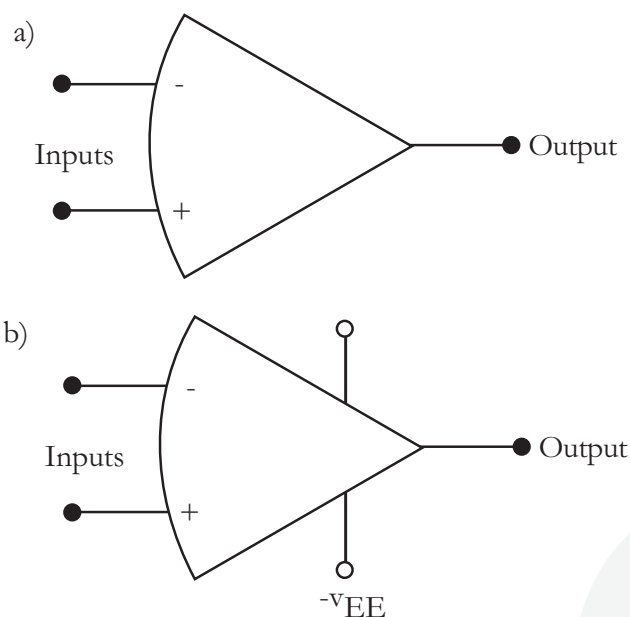

Figure 4.3 – Schematic Symbols of an Operational Amplifier
The schematic symbols for an operational amplifier are shown in figures 4.3 below.
The symbol shown in figure 4.3 (a) is for a simple Op-Amp, while that in (b) is for a dual Op-Amp that may be used as a summing amplifier or integrator.
An Op-amp's negative input is called the *inverting* input while the positive input is *non-inverting* input. In figure 4.3, as you might expect then, if a positive signal is applied to the inverting input with the non-inverting input grounded, the polarity of the output signal will be *opposite* that of the input and naturally, if a positive signal is applied to the non-inverting input with the inverting input grounded, then the output signal's polarity will be the *same* as that of the input. However, if the same signal is applied to both inputs, the two (2) amplified outputs will be 180° anti-phase and cancel each other out. Therefore, in this case if two (2) different signals are applied at the inputs, the amplifier will only respond to *differences* between the two and so acts as a *Differential Amplifier*.